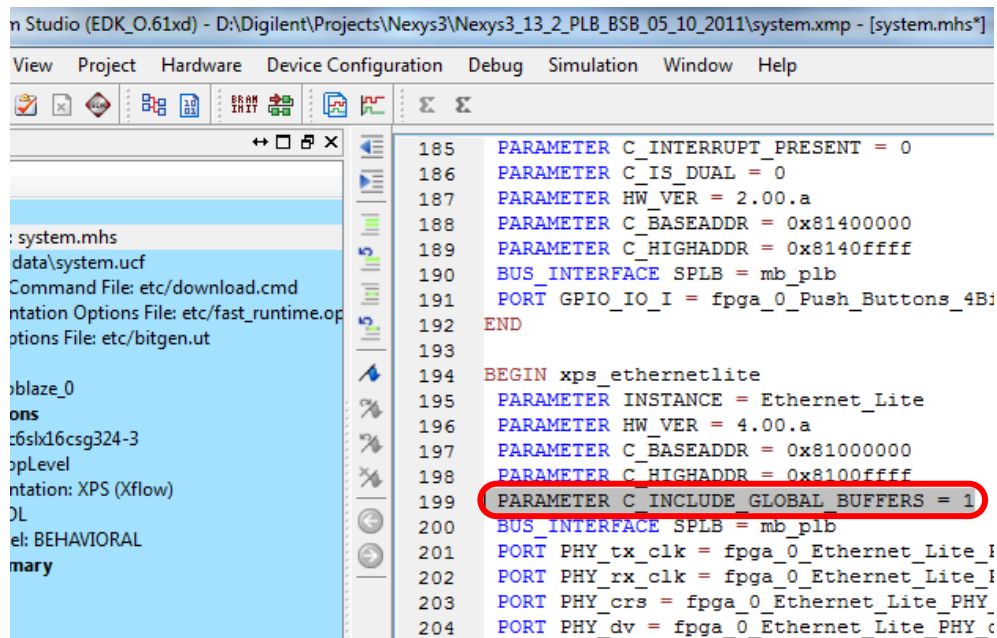

Figure 5. Enabling global buffers for Ethernet\_Lite in the .mhs file
- b. After the .mhs file is opened, scroll down to the “BEGIN xps\_ethernetlite” line. Insert after this line the following parameter value: “PARAMETER C\_INCLUDE\_GLOBAL\_BUFFERS = 1”, as Figure 5 below shows: